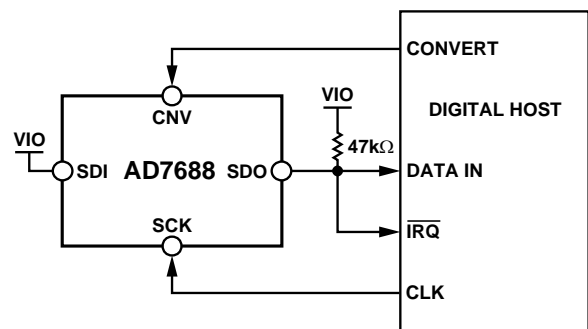
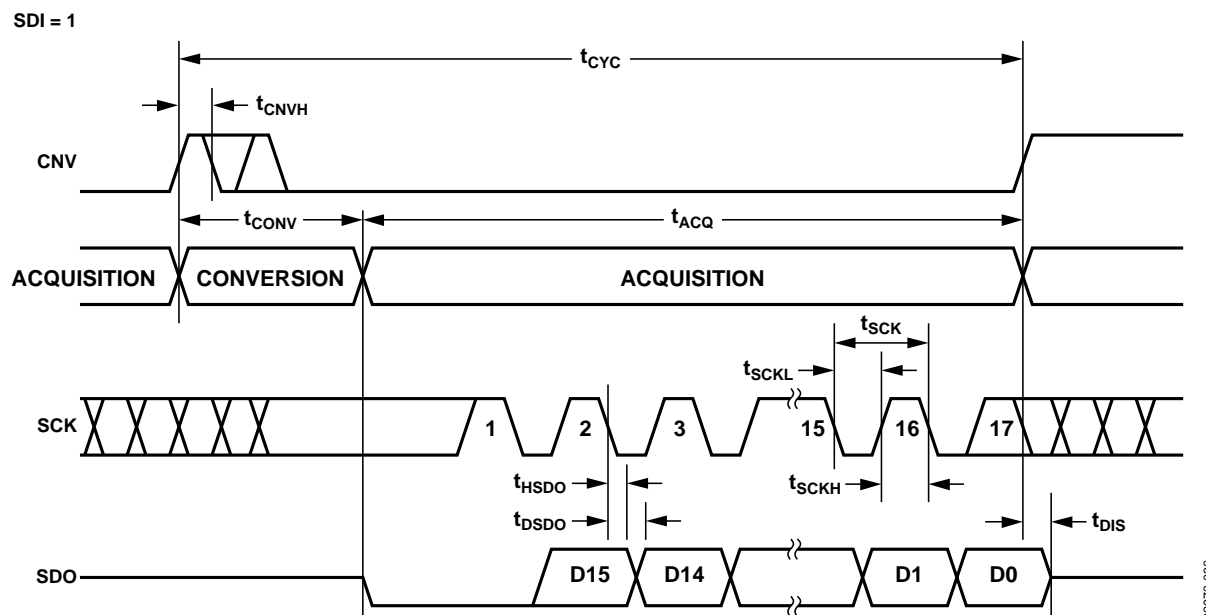
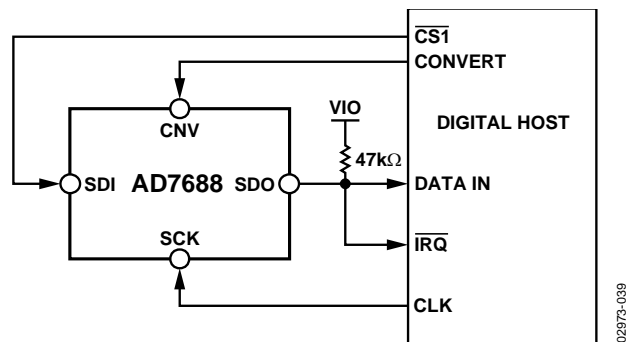
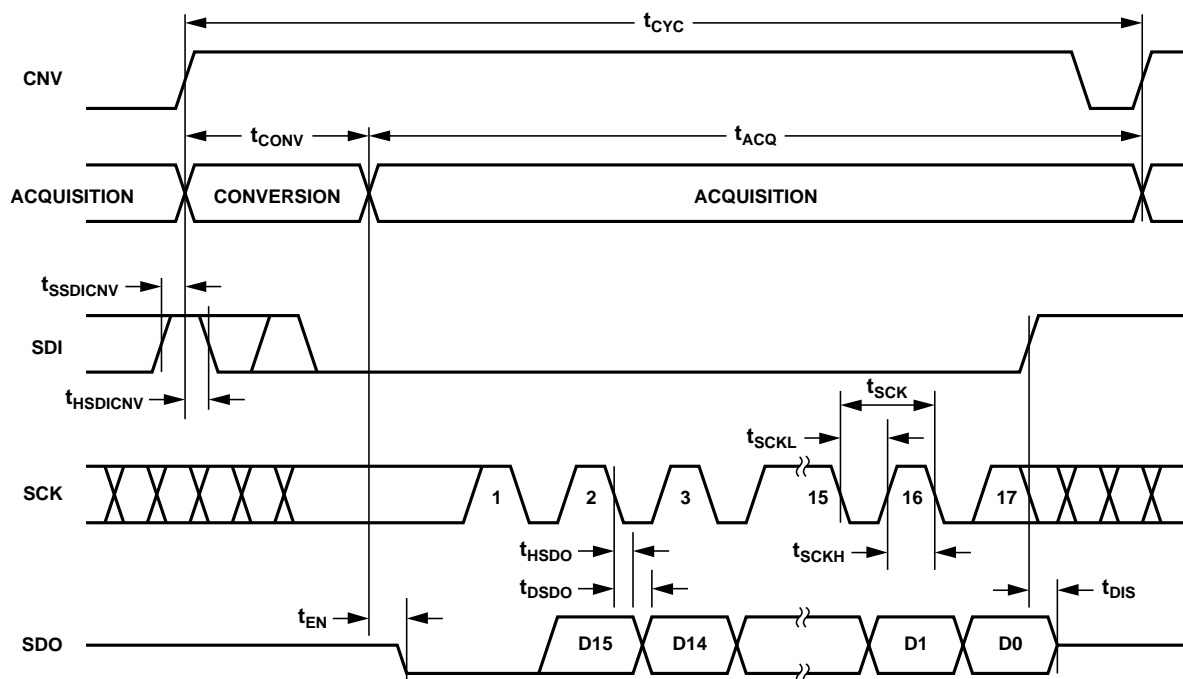

Figure 36. $\overline{\text{CS}}$ Mode 3-Wire with BUSY Indicator Connection Diagram (SDI High)
Figure 37. $\overline{\text{CS}}$ Mode 3-Wire with BUSY Indicator Serial Interface Timing (SDI High)
Figure 40. $\overline{\text{CS}}$ Mode 4-Wire with BUSY Indicator Connection Diagram
Figure 41. $\overline{\text{CS}}$ Mode 4-Wire with BUSY Indicator Serial Interface Timing
- In the \overline{CS} mode, if CNV or SDI is low when the ADC conversion ends (Figure 37 and Figure 41).
The connection diagram is shown in Figure 36 and the corresponding timing is given in Figure 37.
The connection diagram is shown in Figure 40 and the corresponding timing is given in Figure 41.